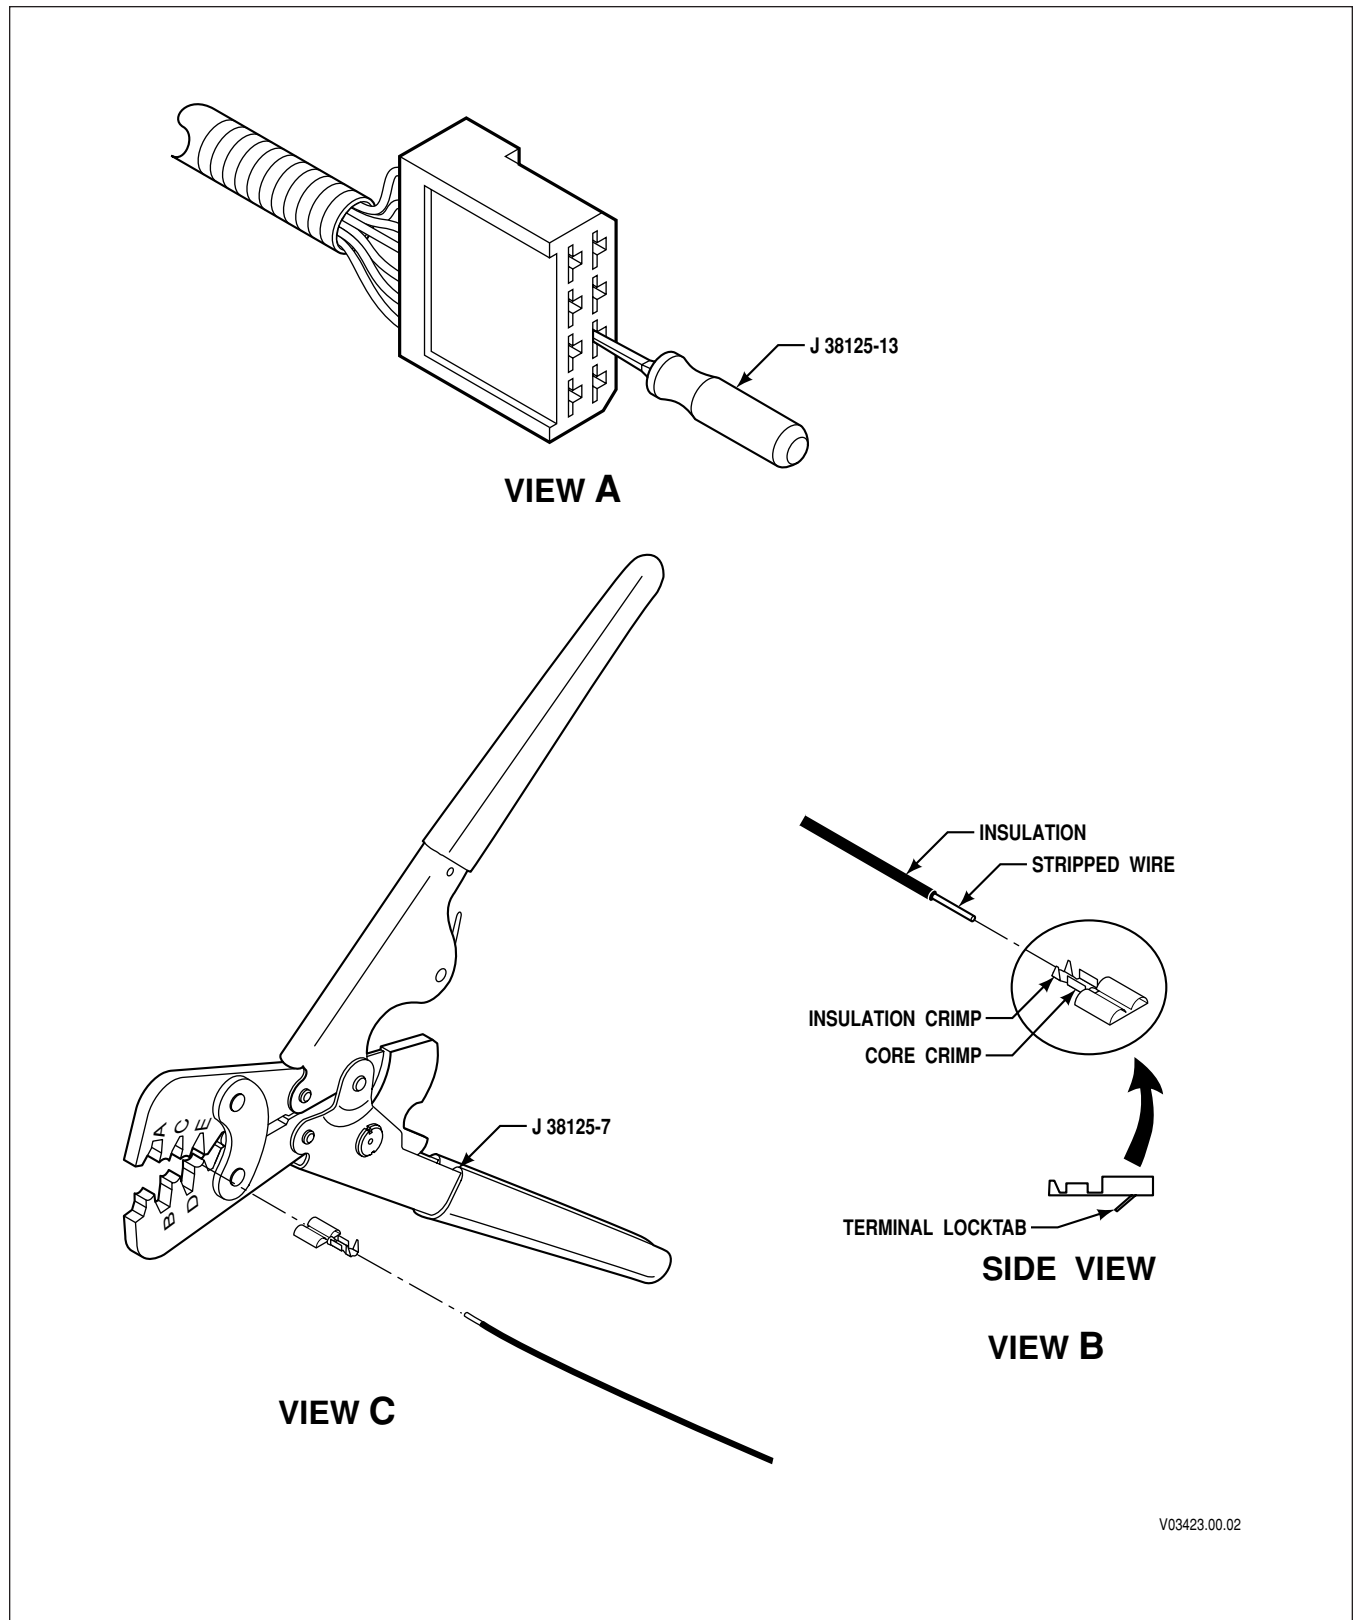

Figure E-12. Amp Products Connectors (8-Way RMR Device (Hand Lever))
1. Insert removal tool J 38125-13 into the small notch at the front of the connector to release the terminal locktab (Figure E-12, View A).
1. Strip wire to approximately  $4.0 \pm 0.25$  mm ( $0.16 \pm 0.01$  inch) (Figure E-12, View B).
2. Place new terminal onto crimping tool J 38125-7, anvil “E” (Figure E-12, View C).
5. Crimp the stripped section of the wire (Figure E-12, View B).